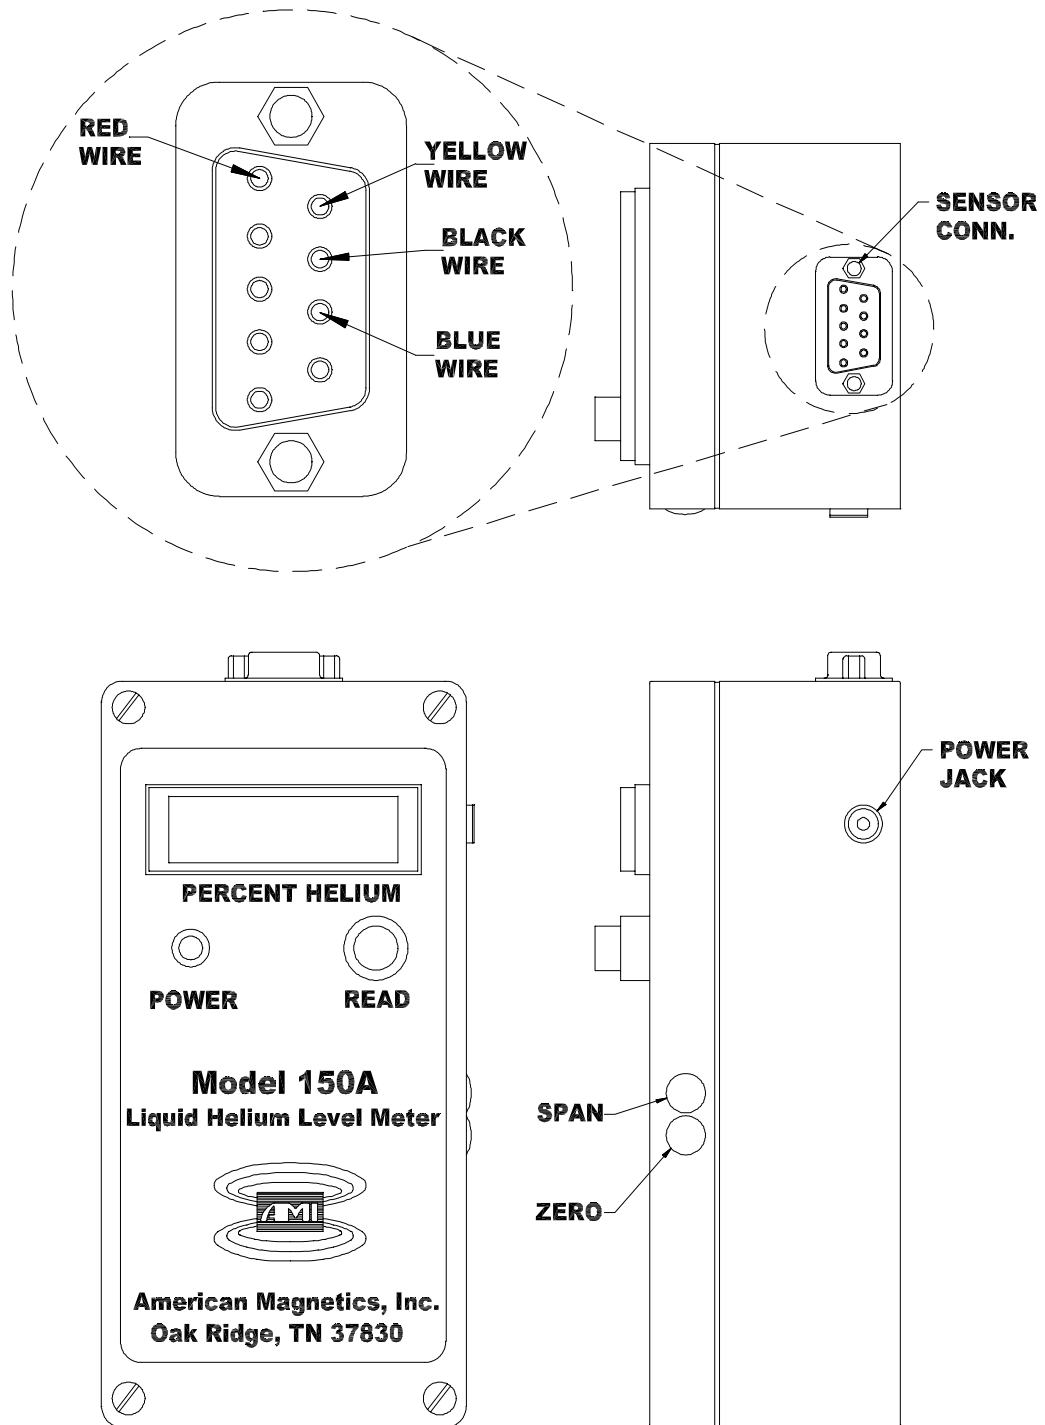

Fig. 1. Model 150A
- A. Connect the instrument to the sensor via the sensor (DB9) connector. Refer to Figure 1.
4. Adjust the SPAN potentiometer located on the circuit board through the side access hole in the lid until the display LCD reads 100.0. Refer to Figure 1.
8. Adjust the ZERO potentiometer located on the circuit board through the side access hole in the lid until the display LCD reads 0.0. Refer to Figure 1.
Most inoperative instruments are traced to improper wiring between the sensor and the instrument. Verify the sensor is connected in accordance with the color code outlined in the installation section (see table in installation section and Figure 1).